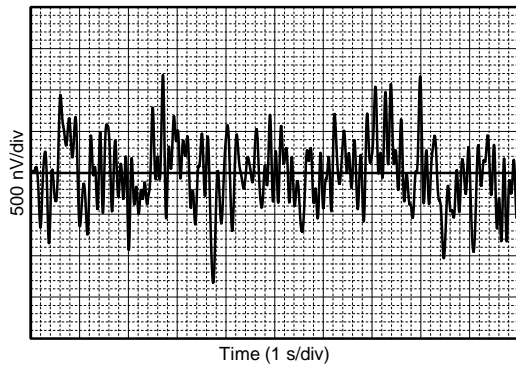

Figure 13. 0.1-Hz to 10-Hz Noise
0.1-Hz to 10-Hz Noise	<a href="#">Figure 13</a>